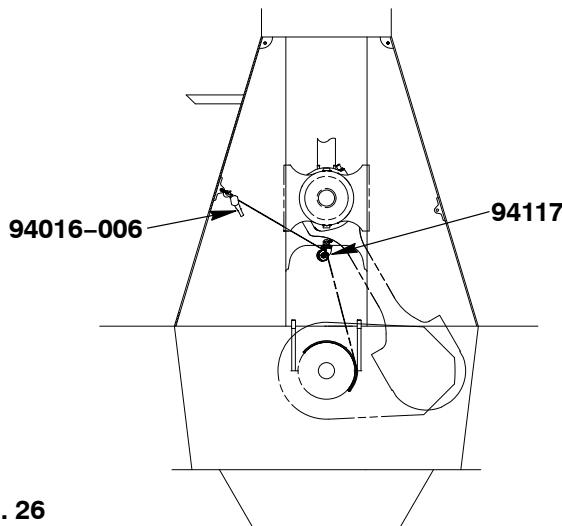

Fig. 26
- 10) Use the manual ratchet (94016-006, Fig.26) to pull the bottom bearing shell out until the hook of the chain is at the roller support (94117).